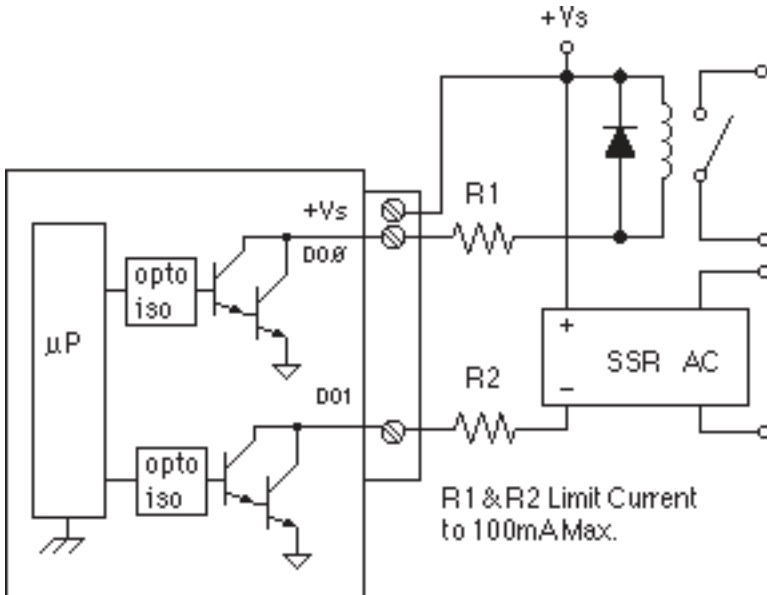
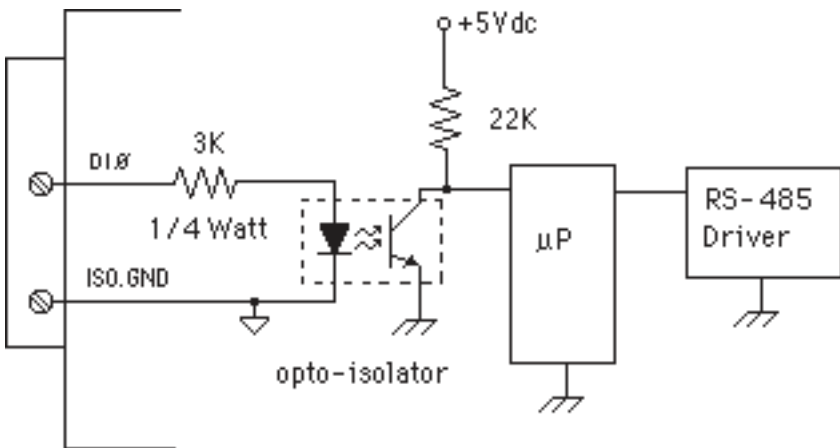

Figure 6.1 Digital Outputs Used With Relays
Figure 6.2 Typical Digital Input Circuit.
A digital output consists of an open-collector transistor controlled by the host, using the Digital Output (DO) command (See Figure 6.1). The open-collector configuration is used to provide maximum versatility in interfacing to solid state relays (SSR's) or to standard logic levels such as TTL or CMOS. Each digital output can sink up to 100mA and can withstand up to 30V. Power in the transistor must be limited to 300mW. The emitter of each transistor is tied to the GND terminal on the input connector.
A typical connection of a digital output is shown in Figure 6.1. In this case, a solid state relay is controlled by the DIN-172 module. The SSR can then be used to control AC power to alarms, heaters, pumps, etc. A typical connection to a logic input is shown in Figure 6.2. In some cases, the common-mode voltage of the GND terminal may be significantly different from the ground potential of the logic input to be interfaced. This may occur when
the module is powered remotely. In this case, an opto-isolator may be used to eliminate the common-mode voltage. See Figure 6.2. In all cases, the current switched by the transistor may not be more than 100mA.
Digital inputs are used to sense switch closures and the state of digital signals. The inputs are protected to voltages up to $\pm 30\text{V}$ and are normally pulled up to the logic "1" condition (see Figure 6.2). Digital inputs can be read by the Digital Input (DI) command. Voltage inputs less than 1V are read back as '0'. Signals greater than 3.5V are read as '1'. No other commands have any effect on the inputs.